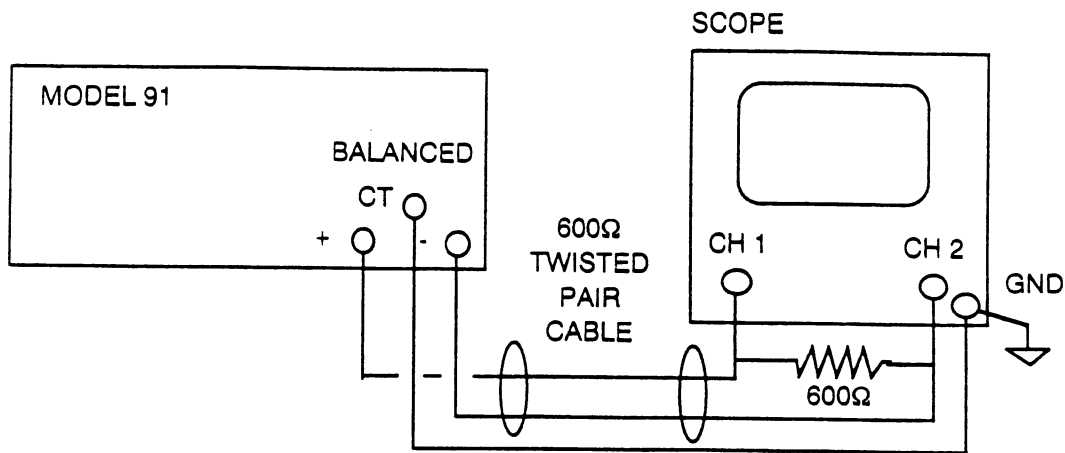

Figure 2-8. Balanced Output Setup
Connect the Model 91 to the oscilloscope and signal source; see figure 2-8
22. Connect the Balanced output to the scope inputs (properly terminate the Model 91 as shown in figure 2-8). Setup the scope as follows: